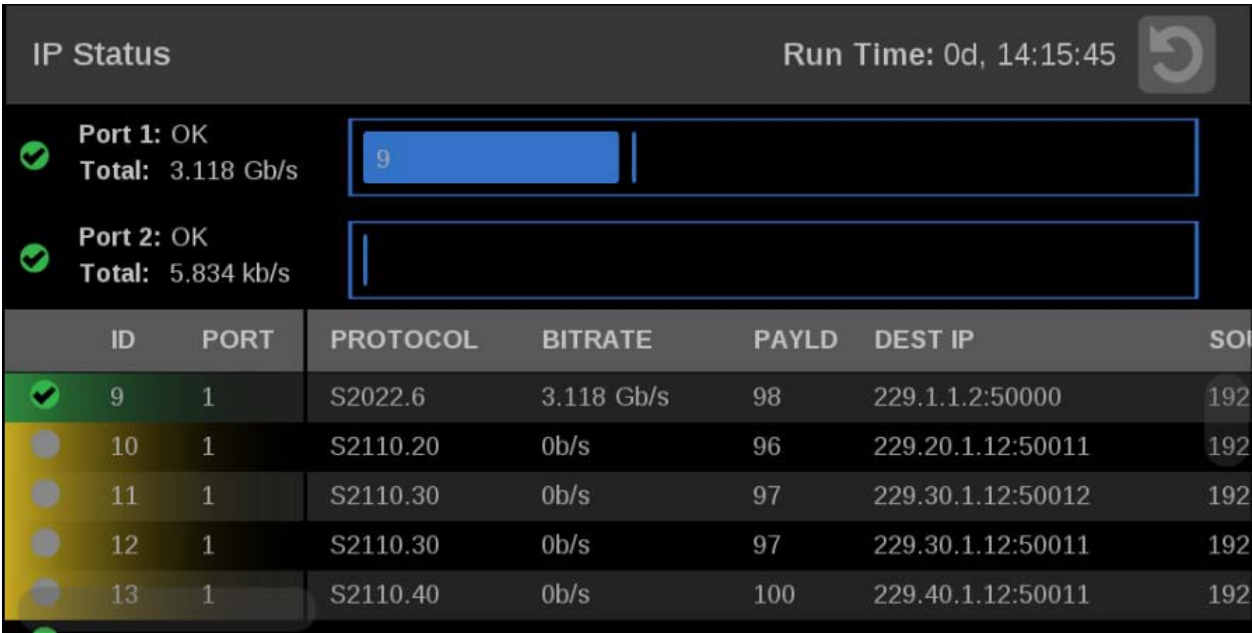

Figure 133: IP Status application display
The IP Status application provides an overview of the monitored IP stream and shows the status of each program in the stream. (See Figure 133.) After the input signals have been subscribed to using the input settings menu, the traffic on the SFP ports can be viewed using the IP Status application. Depending on the network switch deployed, the traffic may not appear in the IP Status application immediately.
- **Yellow gradient:** When an item in the list has a yellow gradient it indicates the item was previously detected in the stream but is no longer present. The yellow gradient can also indicate messages, which occur only for a few seconds. Use the  icon to reset the display to view only the items currently in the stream. (See Figure 133.)